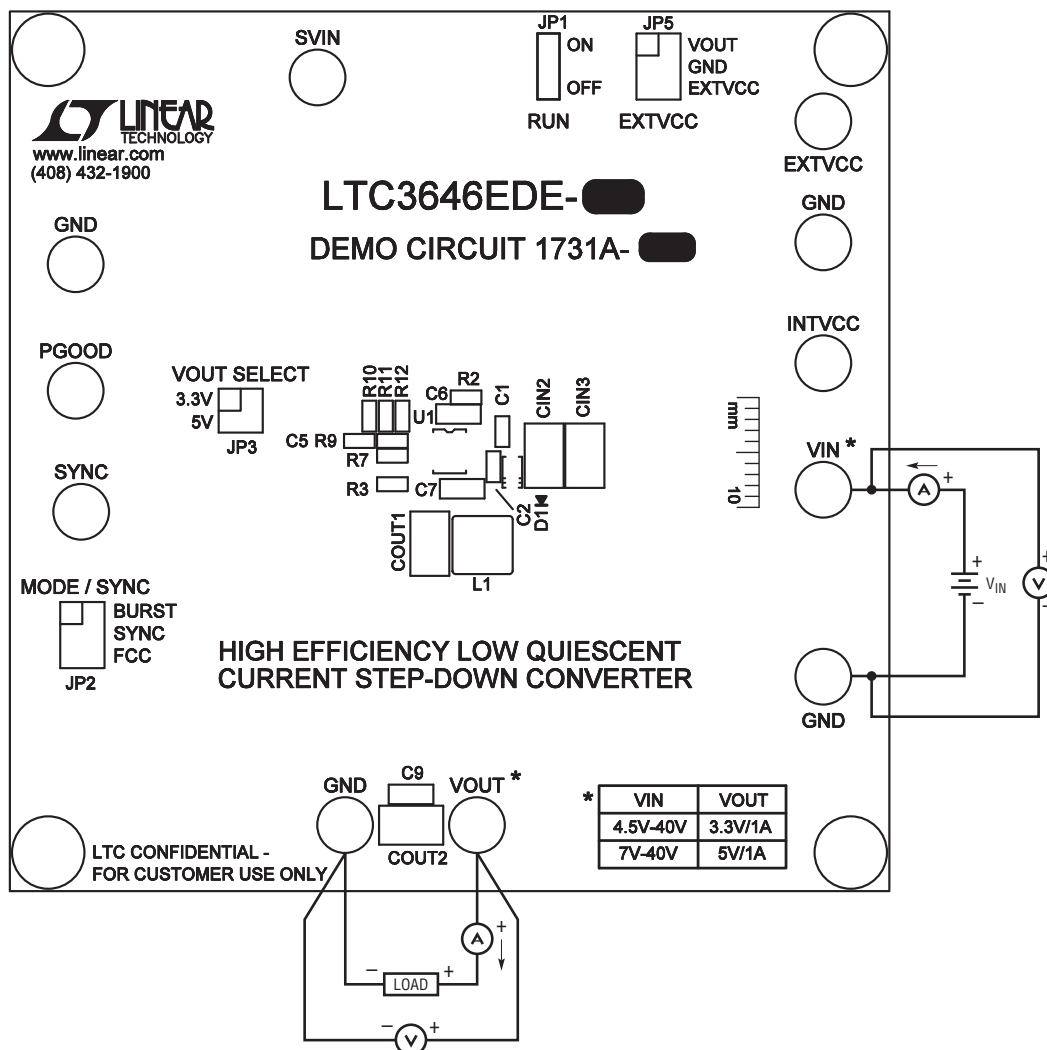

Figure 1. Proper Measurement Equipment Setup
Demonstration circuit 1731A is an easy way to evaluate the performance of the LTC3646/LTC3646-1. Please refer to Figure 1 for proper measurement equipment setup and follow the procedure below:
2. With power off, connect the input power supply, load and meters as shown in Figure 1. Preset the load to 0A and V_{IN} supply to be 0V.